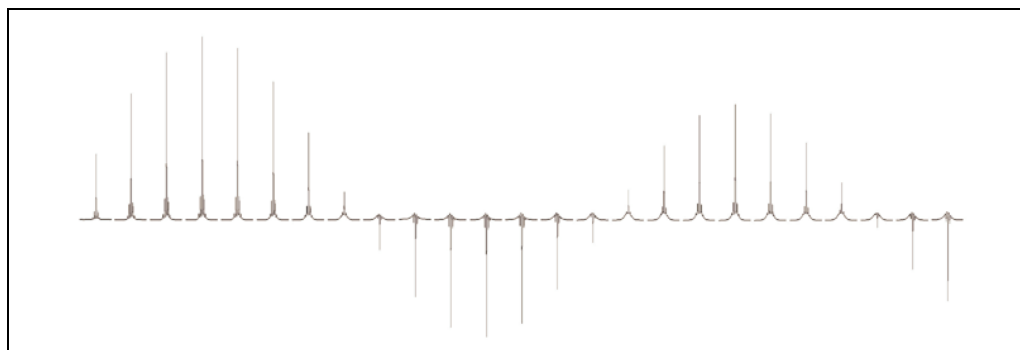

Figure 76 CPMAS pwX90 for 4.0  $\mu$ s  $^1\text{H}$  90-degree pulse
24. Readjust the value of **aX90** to obtain a 1H 90-degree 1H pulse pwX90 equal to the 13C pulse specification, see Figure 76.